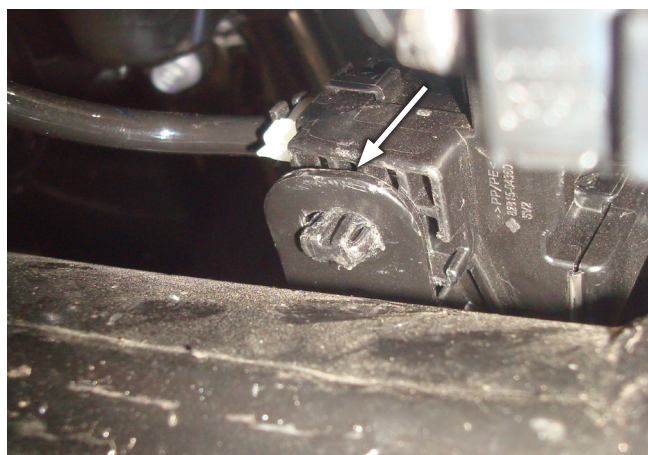

Fig. 6
5. Remove the electric brake wiring harness connector that mounts to the bracket welded forward of the axle on both sides by pushing in on the tabs underneath and pushing it out of the slot (Fig. 6).